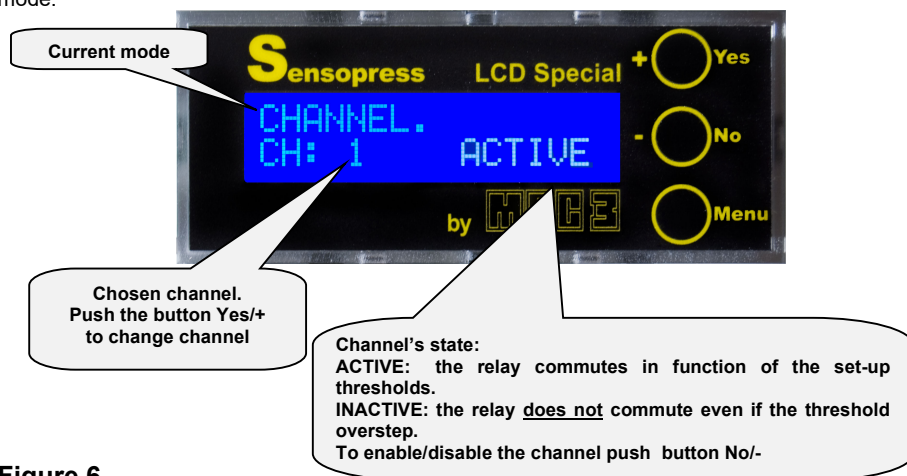

Figure 6
- Choose the channel by pushing the button **Yes/+**, the chosen channel is indicated on the low left side of the display as shown in Figure 6.
- Push the button **No/-** to enable/disable the indicated channel. The indication of the channel's state is visualized on the low right side of the display as shown in Figure 6.